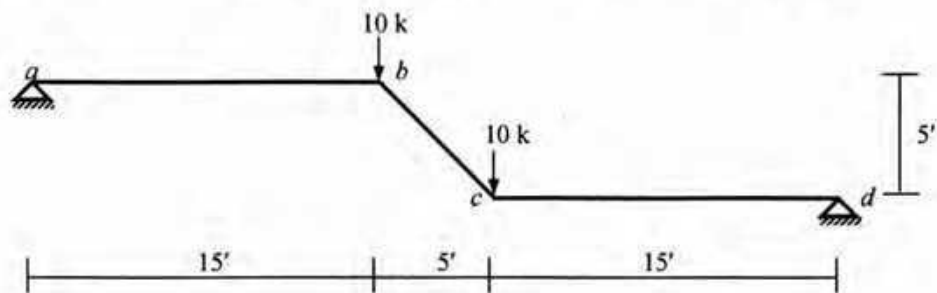

Fig. 8
8. Use the Flexibility Method (considering flexural and axial deformations only) to draw the Bending Moment Diagram of the frame shown in Fig. 8, if in addition to the applied loads, support  $a$  moves 10-mm rightward [Given:  $EI = \text{constant} = 20 \times 10^3 \text{ k-ft}^2$ ,  $EA = \text{constant} = 4 \times 10^5 \text{ k}$ ].